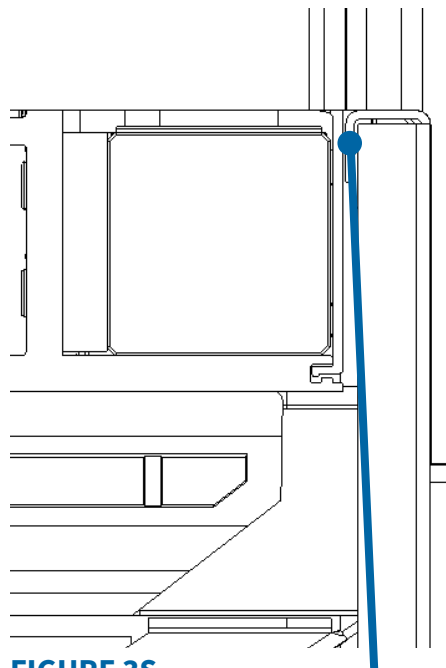

FIGURE 3S
1. To reinstall, slot front panel into the slot as per Figure 3S. Follow removal instructions to reinstall other components.